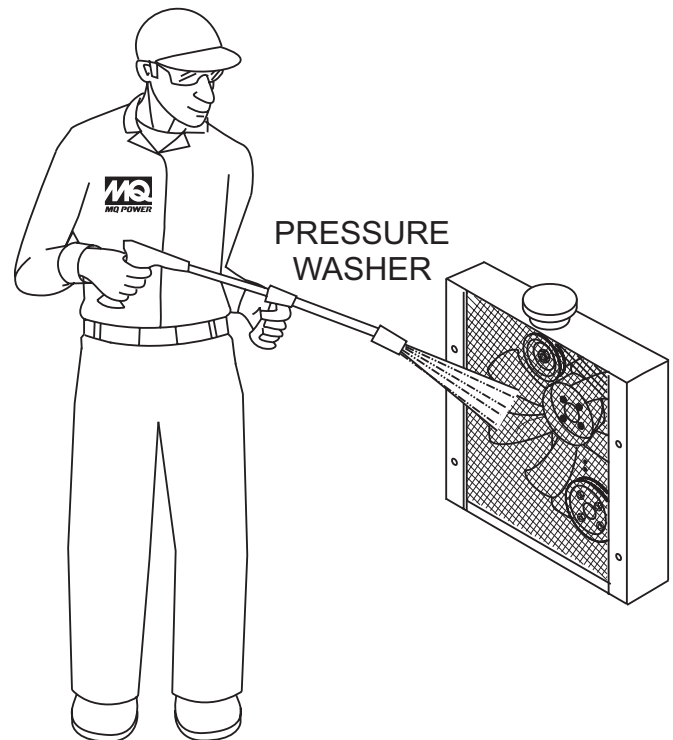

Figure 53. Radiator Cleaning
5. The radiator (Figure 53) should be sprayed (cleaned) with a high-pressure washer when excessive amounts of dirt and debris have accumulated on the cooling fins or tube. When using a high-pressure washer, stand at least 5 feet (1.5 meters) away from the radiator to prevent damage to the fins and tube.